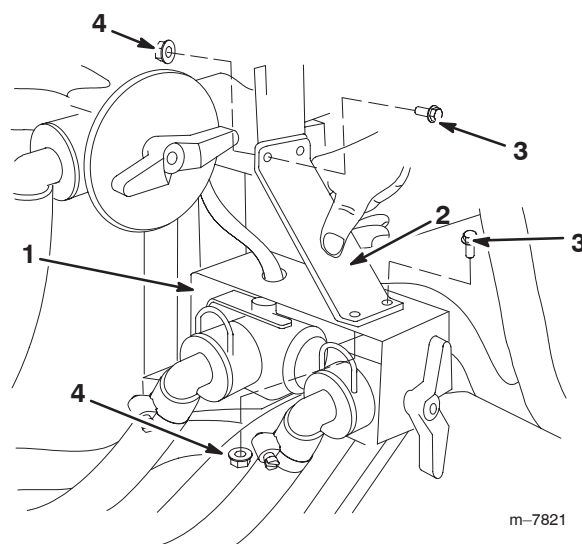

Figure 11
9. Install the supply tee and control valve assemblies to the mounting brackets as shown in Figure 11.
11. Install the support bracket as shown in Figure 11, using 4 flange-head bolts (1/4 x 3/4 inch) and 4 flange nuts (1/4 inch).